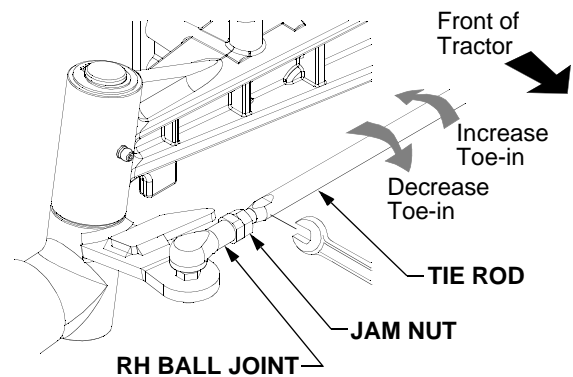

Figure 28
- Loosen the jam nuts at both the LH and RH ball joints. See Figure 28.
Rearward to shorten the tie rod and increase the toe-in. See Figure 28.
Forward to lengthen the tie rod and decrease the toe-in. See Figure 28.